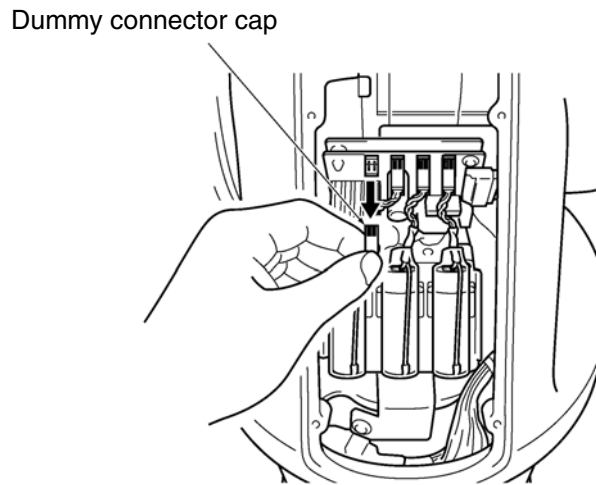

Figure 6-3. Removing Dummy Connector Cap
4. Remove the dummy connector cap from the battery board. See Figure 6-3.